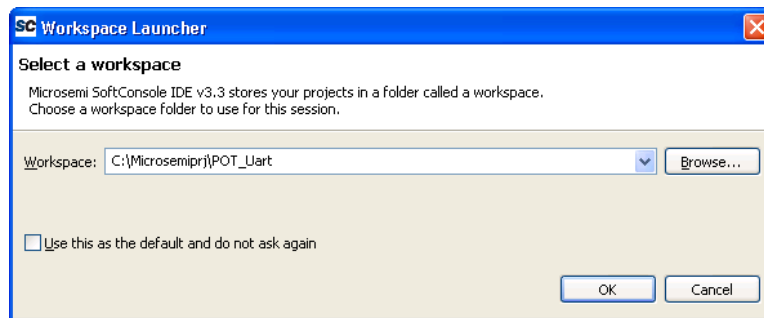

Figure 1 - Specifying the SoftConsole Workspace
2. The **SoftConsole Workspace Launcher** is displayed as shown in Figure 1 . Click **Browse** on the SoftConsole Workspace Launcher to navigate to your preferred location (where you will create your project), or enter the location of your workspace. For example: C:\Microsemiprj\POT_Uart). Click **OK**.